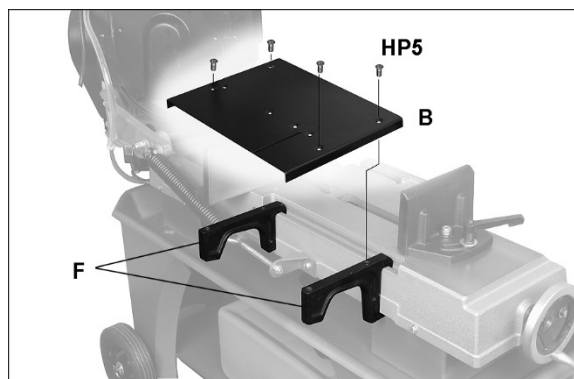

Figure 6-9: Installing Infeed Table (712DV only)
8. The table plate (B, Figure 6-9) may be used as cutting table in vertical mode (models 712V and 712DV) or may be used as infeed table in horizontal mode (**712DV only**). To use as infeed table for model 712DV, place supports (F) on channel of saw bed as shown and install plate with flat head screws (HP5).